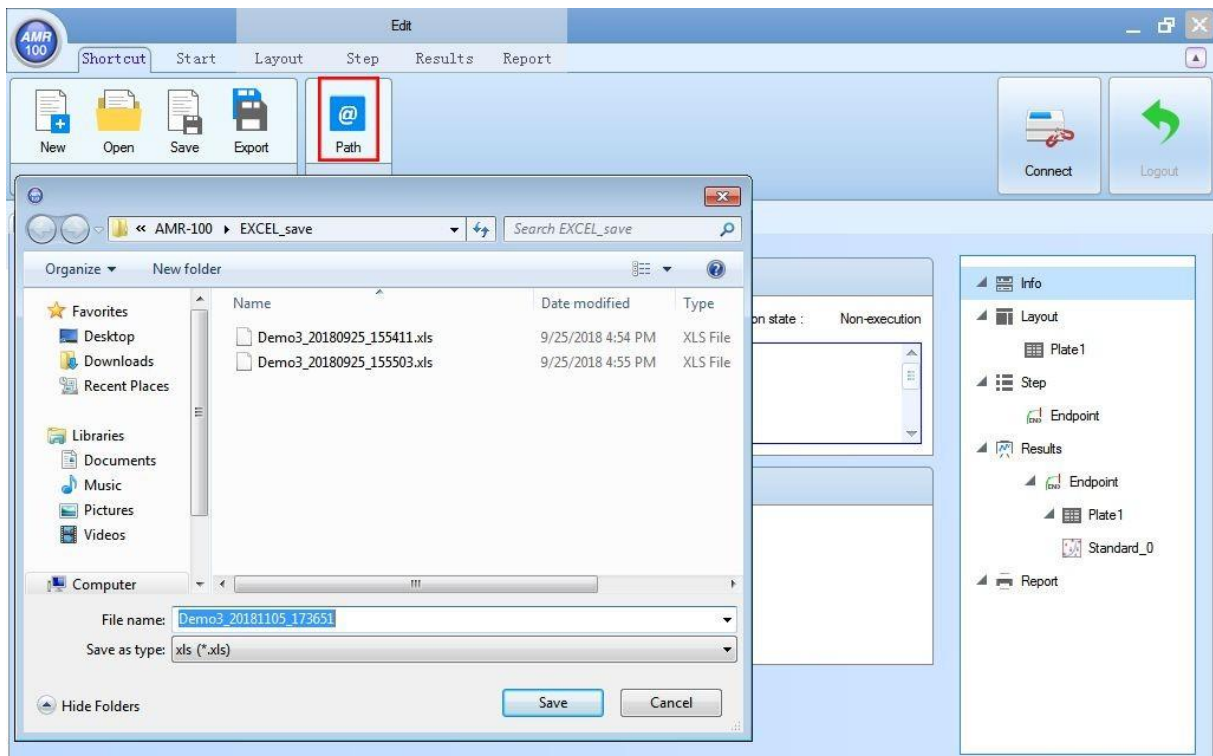

Fig 20
- Click “Path” button to open the path of the last time exporting as Fig 20.